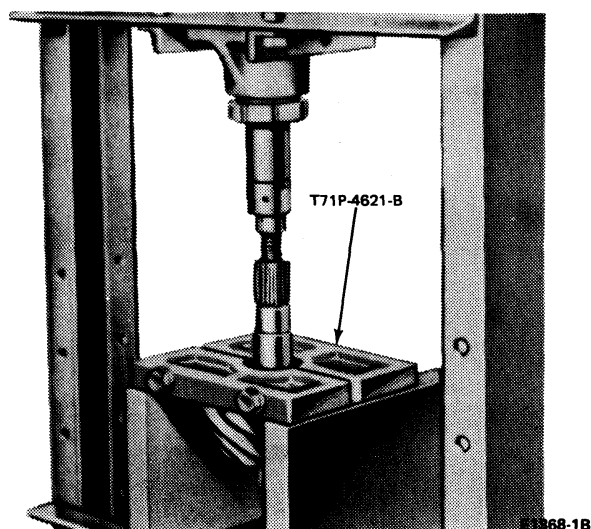

FIG. 25 Removing Pinion Rear Bearing Cone
6. Press the pinion shaft out of the pinion rear bearing cone (Fig. 25).